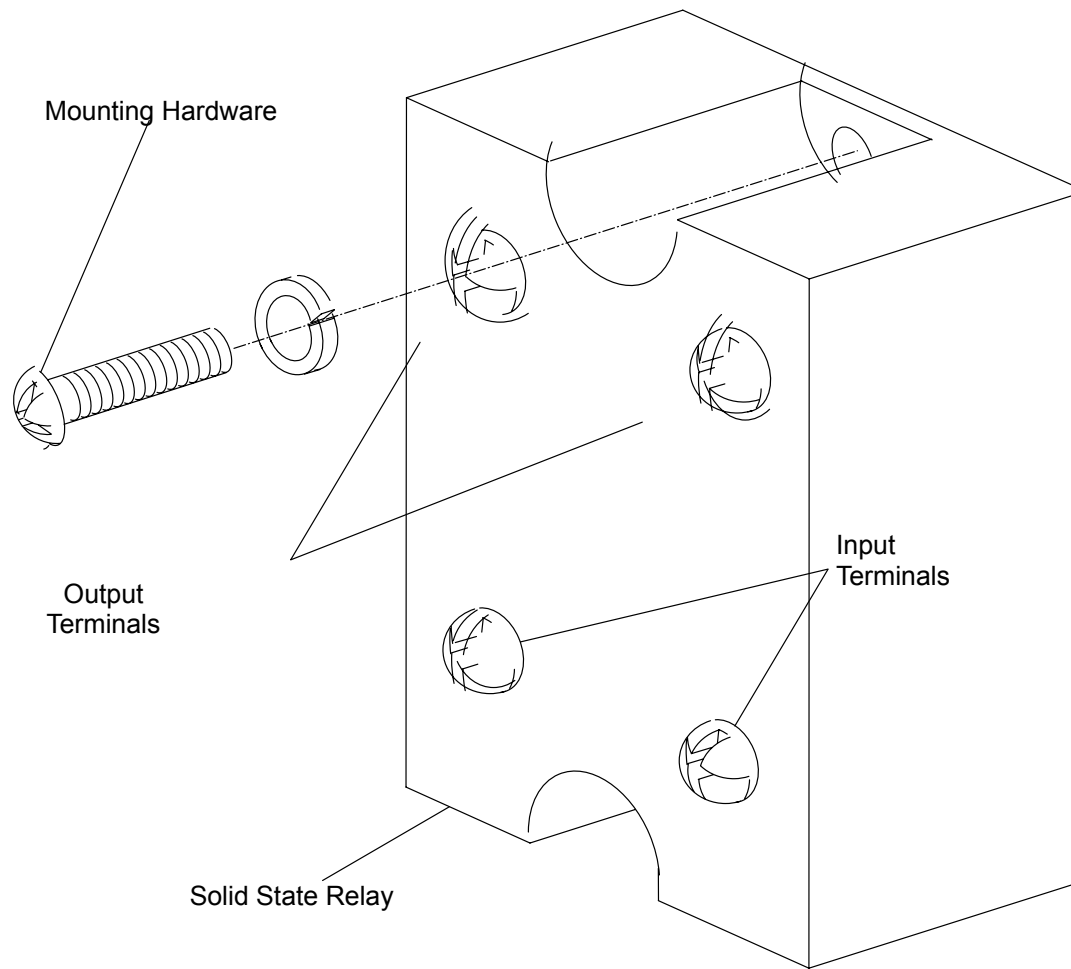

FIGURE 287 Solid State Relay and Mounting Hardware
4. Support the SSR and remove the two Mounting Screws. See Figure 287.